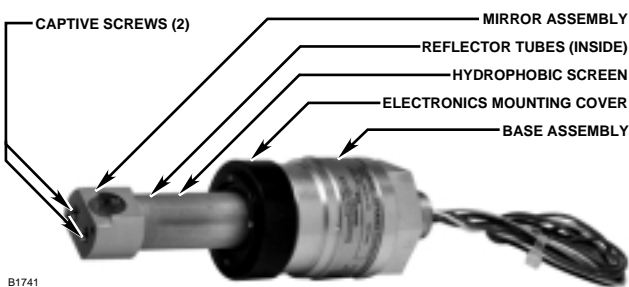

Figure 12—IR Module and Base Assemblies
2. Unscrew and remove the electronics mounting cover by rotating it counter-clockwise. See Figure 12.
6. Screw the electronics mounting cover clockwise onto the base assembly as shown in Figure 12.